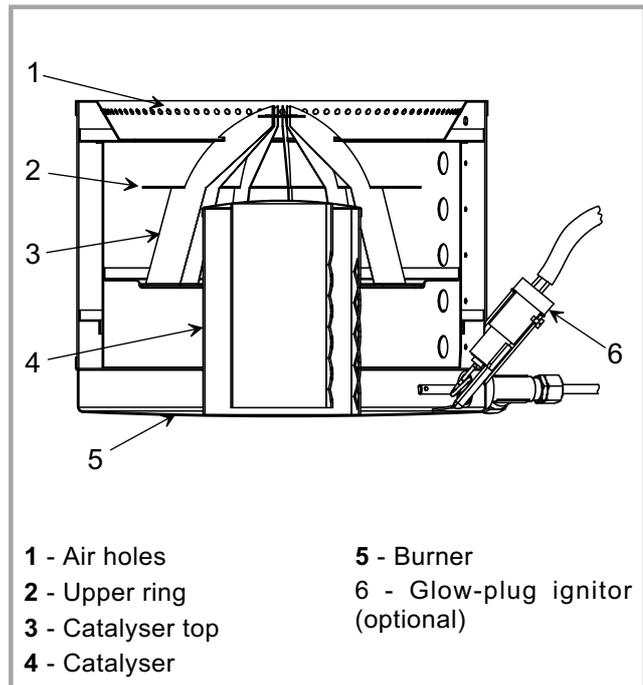

Figure 12 - Burner
- Open the front door, and remove the catalyser from burner (# 2, 3 and 4 of fig. 12). Make sure the inside of the pot is clean thoroughly, and there is no oil accumulation.
- Remove all the parts of the catalyser (# 2, 3 and 4 of fig. 12).